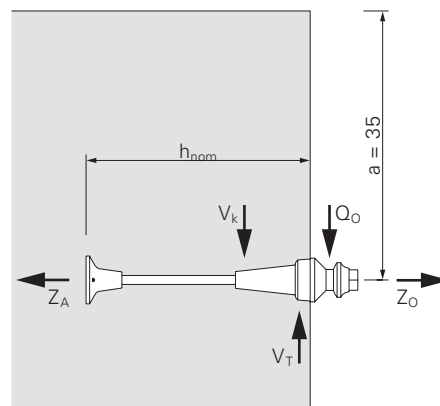

Fig. C1.21
- The maximum tensile force  $Z_0$  is diverted into the concrete via the pressure on the threaded anchor plate  $Z_A$ . (Fig. C1.21)